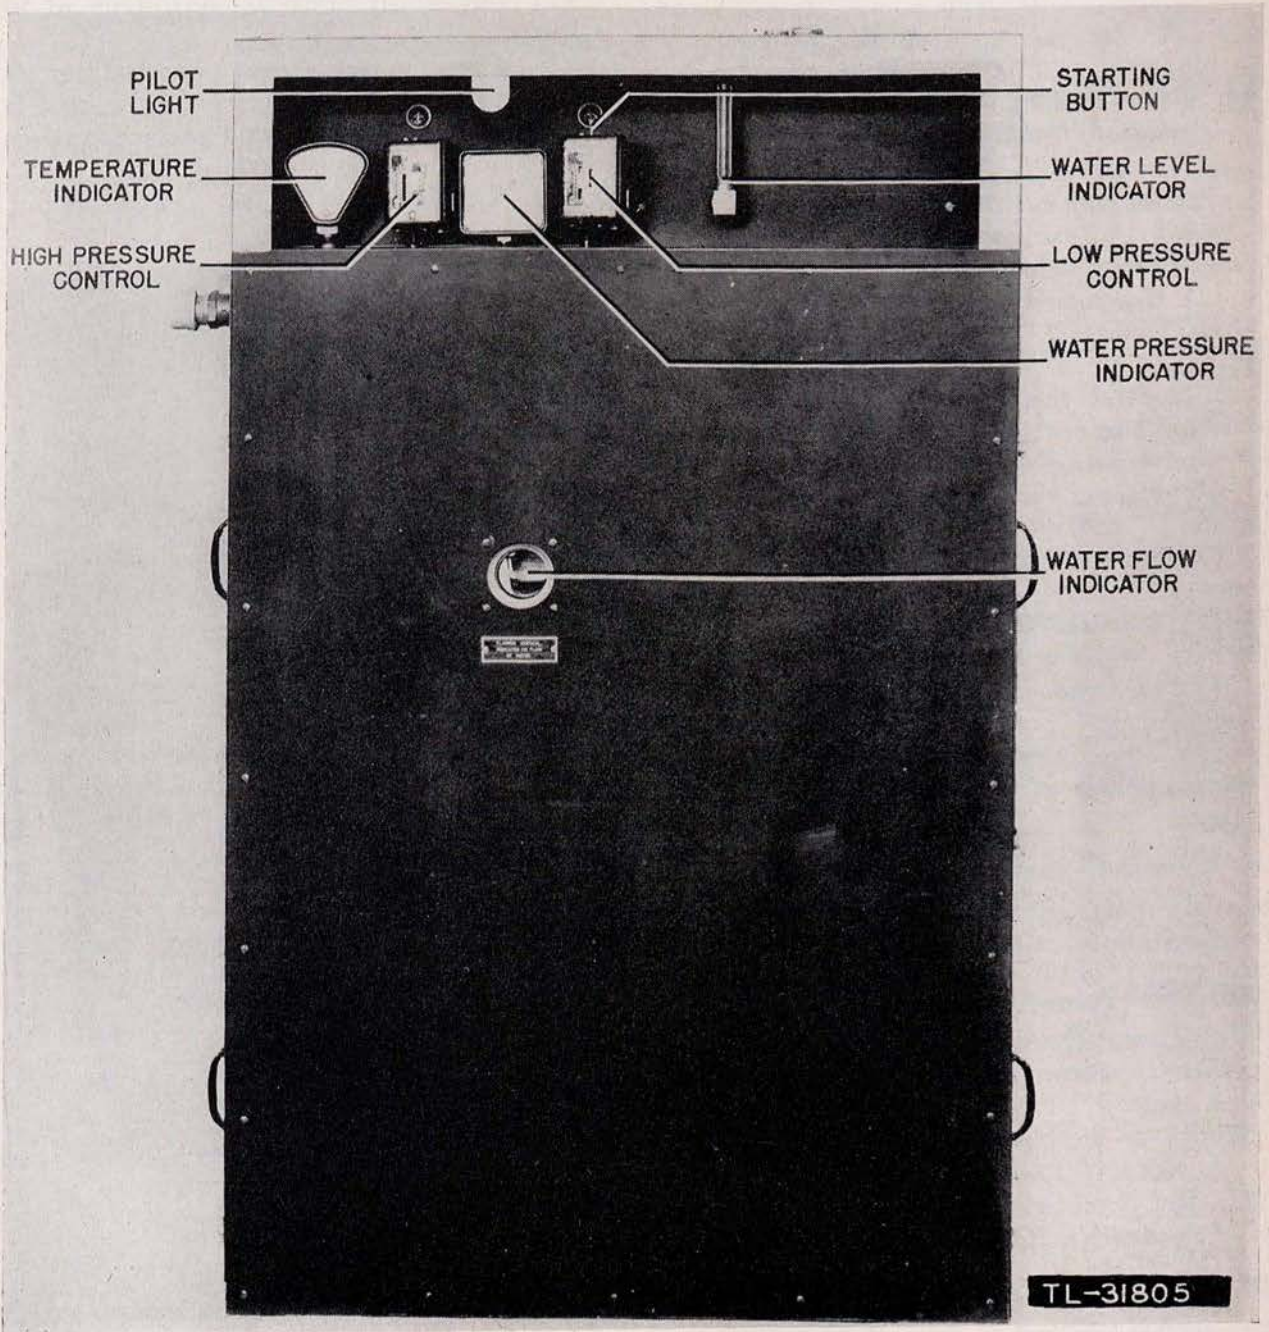

Figure 29. Water Cooler RU-4-A, showing controls.
45. Press Starting Button On Low Pressure-trol 6 in Water Cooler (fig. 29)
b. METER READINGS. (1) *Pressure gauge.* Approximately 8 pounds.